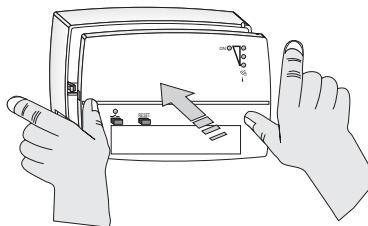

Fig. 9.i
- Push the front on to the base using both hands as shown in figure 9.i , until the catches click and lock the front to the base.
- Carefully reclose the receiver (fig. 9.i - fig. 10.i).